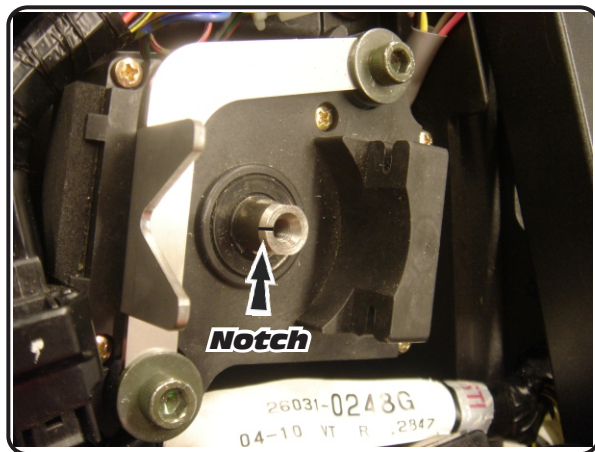

Fig. 11
- 11 Install Yoshimura bracket using stock bolts and washers (see Fig. 11). Be careful not to lose the spacers and washers below the servo motor.
- 12 Turn key quickly on and off to rotate servo motor until notch points directly toward the “V” in the Yoshimura EVA stopper bracket (see Fig. 11).